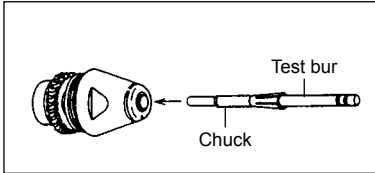

Fig. 13
- ① Apply oil thinly on the surface of the new chuck or the chuck after cleaning, insert the test bur and push into the rotor shaft. (Fig.13)